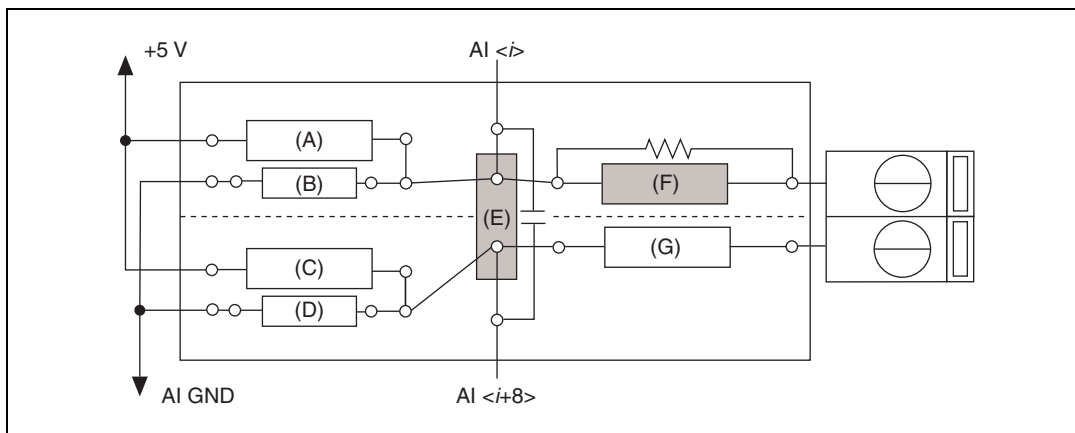

Figure 4-19. SCB-68 Circuit Diagram for Differential Analog Input Lowpass Filter
- **Differential analog input lowpass filter**—To build a differential lowpass filter, refer to Figure 4-19. Add the resistor to position F and the capacitor to position E. Refer to Table 4-1 for component positions for all analog input channels.